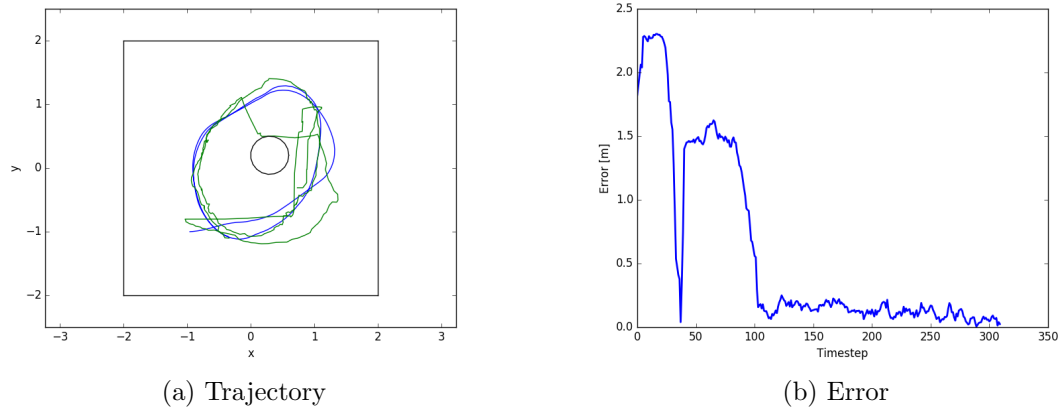

Figure 8: Localization - convergence of particles
- (g) Figure 8 shows how quickly the particles converge. To begin with, the particles are random so the error is very high, but the resampling process reduces this error until